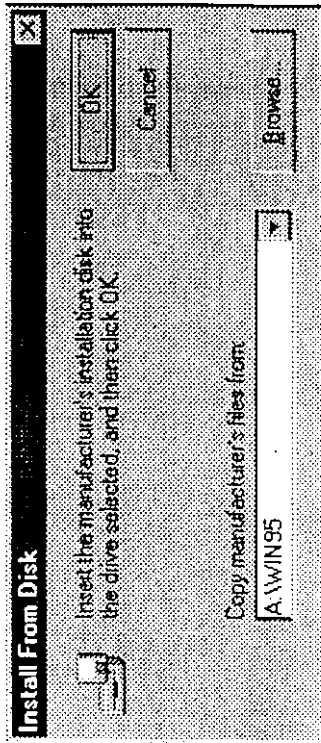

Figure 3-6.
7. Once in this directory, the file TRIDENT.INF will appear under file name list. SELECT "K" to return to the "Install From Disk" window (see Figure 3-6). Under the statement "Copy manufacturer files from", the line X:\WIN95 should appear. SELECT "K" to start installing the driver files from the diskette drive.